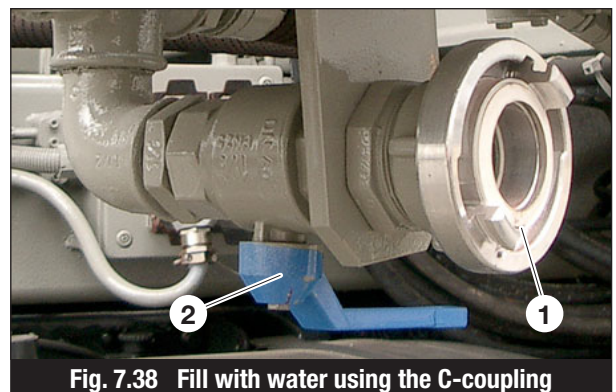
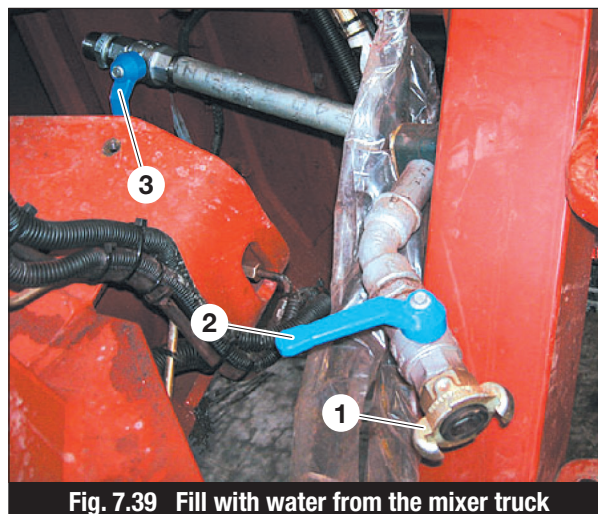

Fig. 7.38 Fill with water using the C-coupling
Fig. 7.39 Fill with water from the mixer truck
- Connect the water hose to the C-coupling (Item 1, Fig. 7.38).
- Open the ball valve (Item 2, Fig. 7.38)
- Connect the water hose to the Geka-coupling (Item 1, Fig. 7.39).
- Open the ball valve (Item 2, Fig. 7.39)
- Completely drain all water by opening all ball valves (Item 2, Fig. 7.38 and Item 2, Fig. 7.39).